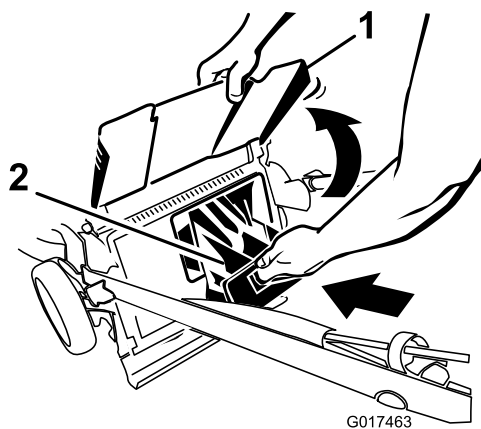

Figure 27
4. Install the rear discharge plug (Figure 27).